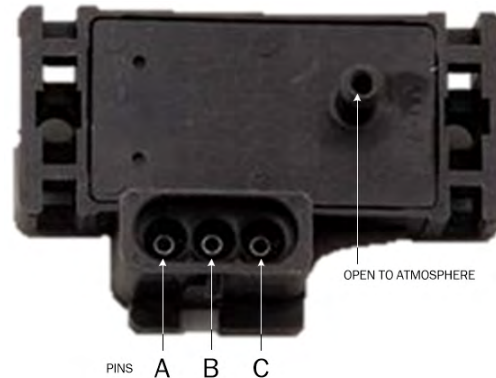

Figure 45. Barometric Sensor
The barometric sensor (Figure 45) is secured to the top of the left intake (Q series) or right intake (D series) with a mounted bracket using two (2) 1/4-20 X 1-1/4-in long washer head machine screws (use Loctite 243 on threads).
The sensor houses three pins, see Figure 45 for the pin layout and Table 26 for the pin connections. Notice the atmospheric port must remain open to the atmosphere.